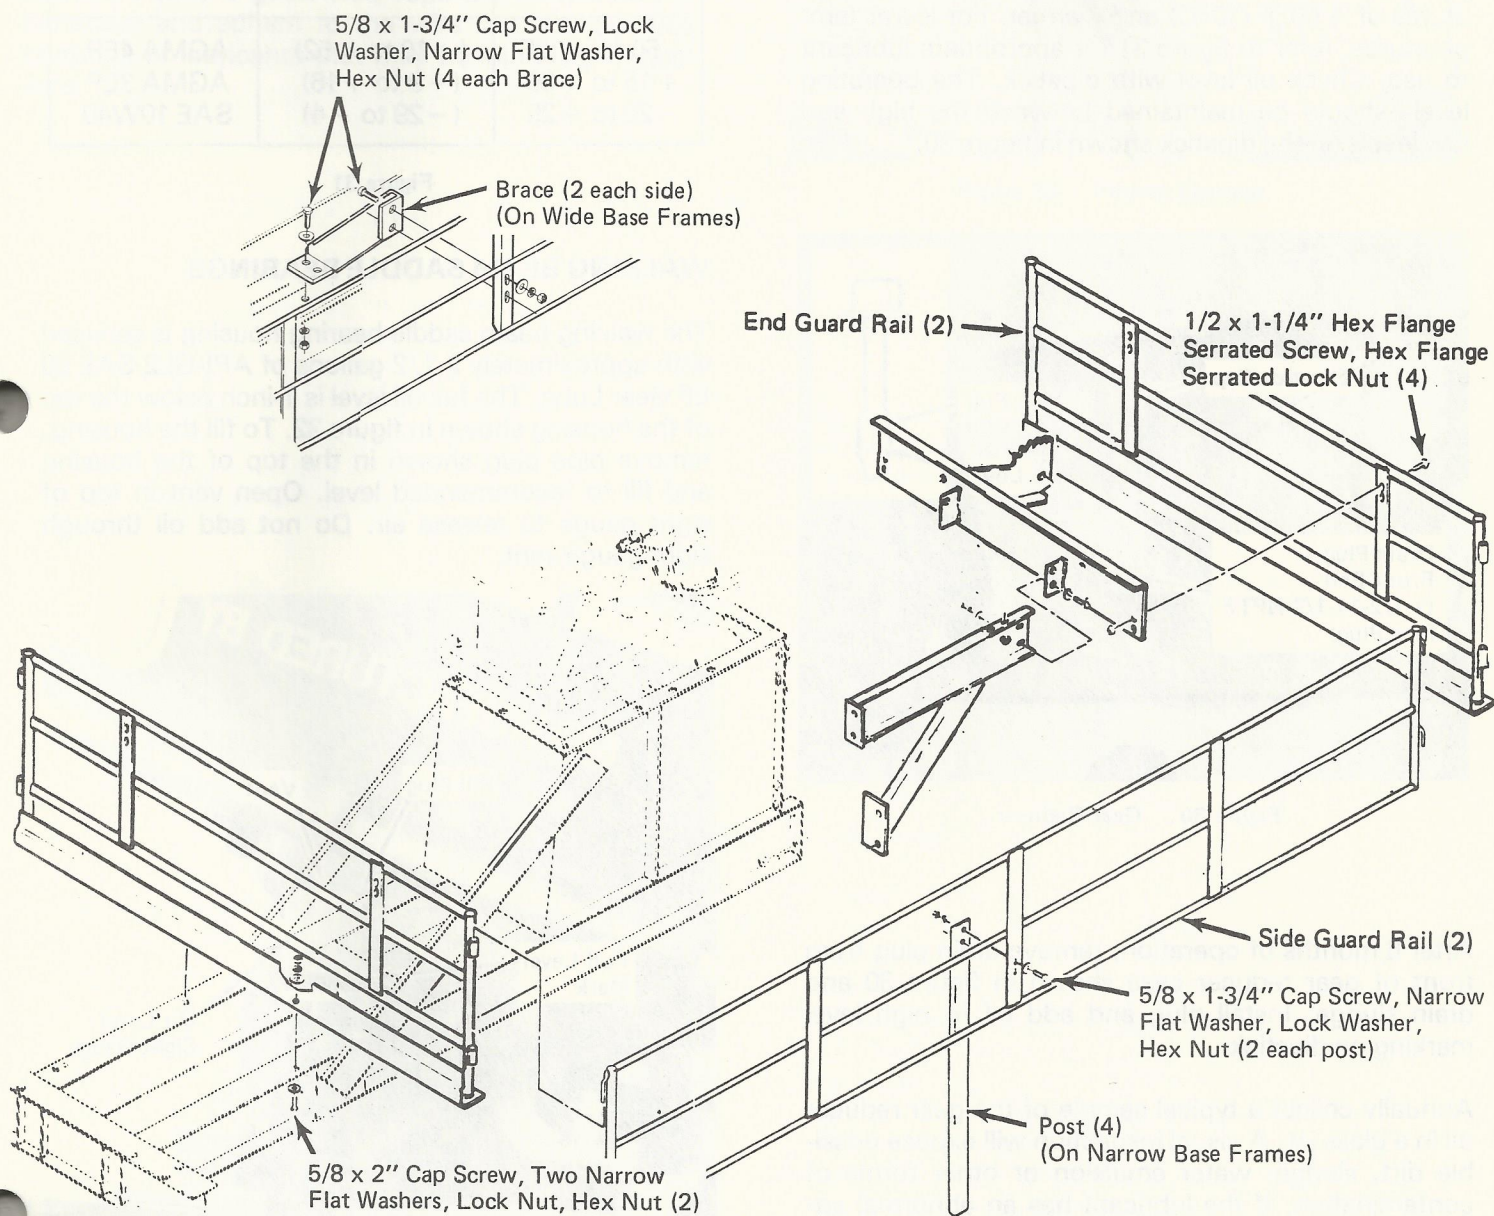

Figure 29
46. Attach an end guard rail to high prime mover frame cross member with four bolts shown in figure 29.
48. Install side guard rail on each side by inserting pins on each end into sockets of end guard rails as shown in figure 29. On narrow base frames, install two posts on each side of unit to support side rail. Attach with two bolts each. On wide base frames, install braces between frame and side guard rails.